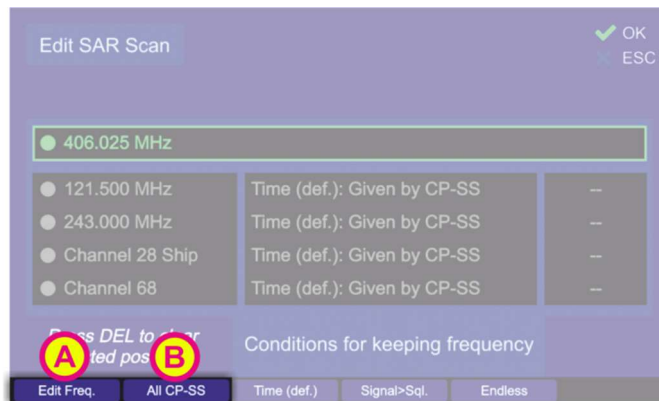

Figure 58. Alternating hotkeys
- The hotkey “Edit Freq.” (s. Figure 58, position A) is only visible if the COSPAS-SARSAT frequency (top frequency) or one of the free selectable frequencies is marked.
- The hotkey “All CP-SS” is only visible if the COSPAS-SARSAT frequency is marked (s. Figure 58, position B). By pressing this hotkey a COSPAS-SARSAT scan will be started in order to find an active COSPAS-SARSAT frequency during SAR scan algorithm.